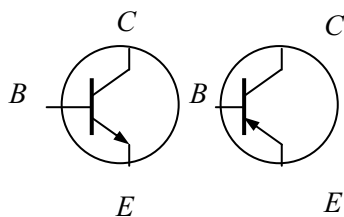

Fig. 1.20
Basic topologies. Fig. 1.20 presents schematic symbols of *npn* and *pnp* transistors. There are three different currents in a transistor: emitter current I_E , base current I_B , and collector current I_C . Accordingly, the three *basic schemes* of the transistor connection in electronic circuits are usually discussed: *common emitter* (CE) connection, *common base* (CB) connection, and *common collector* (CC) connection.